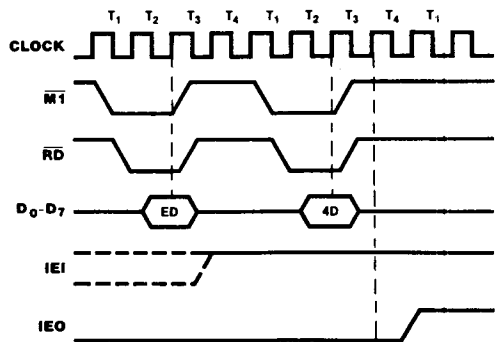

Figure 18. Return from Interrupt Cycle
**Return From Interrupt Cycle.** Figure 18 illustrates the return from interrupt cycle. Normally, the Z80 CPU issues a Return From Interrupt (RETI) instruction at the end of an interrupt service routine. RETI is a 2-byte opcode (ED-4D) that resets the interrupt-under-service latch in the SIO to terminate the interrupt that has just been processed. This is accomplished by manipulating the daisy chain in the following way.